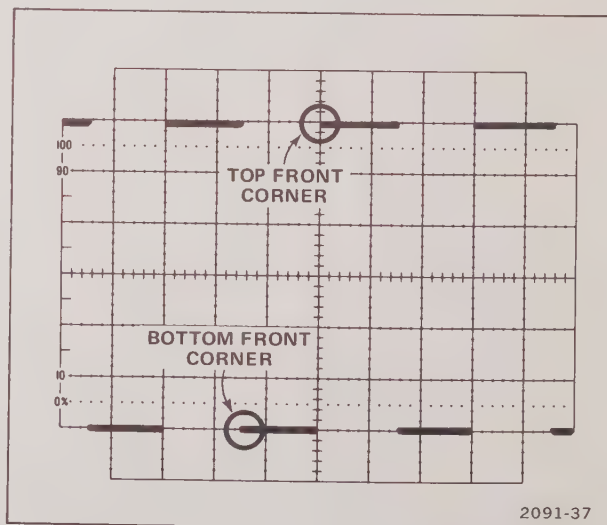

Figure 6-1. Typical display for adjusting vertical compensation.
- ADJUST—R415 (Y Gain) for an 8-division square-wave display on the 607 as shown in Figure 6-1.
j. ADJUST—C400 (+ Y Atten Comp) for an optimum square top front corner on the 607 display (see Fig. 6-1). For best accuracy, position the display corner of interest to graticule center.
l. ADJUST—C500 (– Y Atten Comp) for an optimum square bottom front corner on the 607 display (see Fig. 6-1). For best accuracy, position the display corner of interest to graticule center.
q. ADJUST—C446 (Y HF Comp) for an optimum square front corner on the 607 display (see Fig. 6-1). For best accuracy, position the display corner of interest to graticule center.